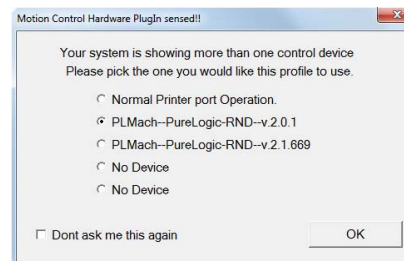

Fig. 4. PlugIn choice.
3. Choose the corresponding PlugIn in a window presented at fig. 4. when MACH3 runs after PlugIn installation.